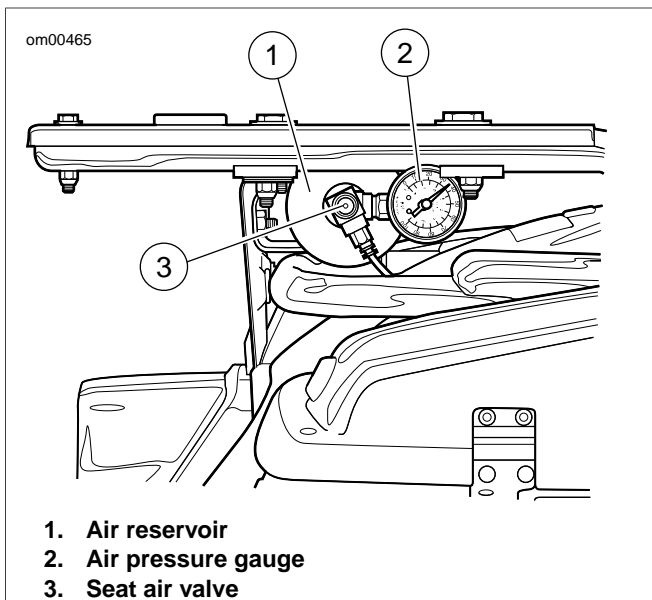
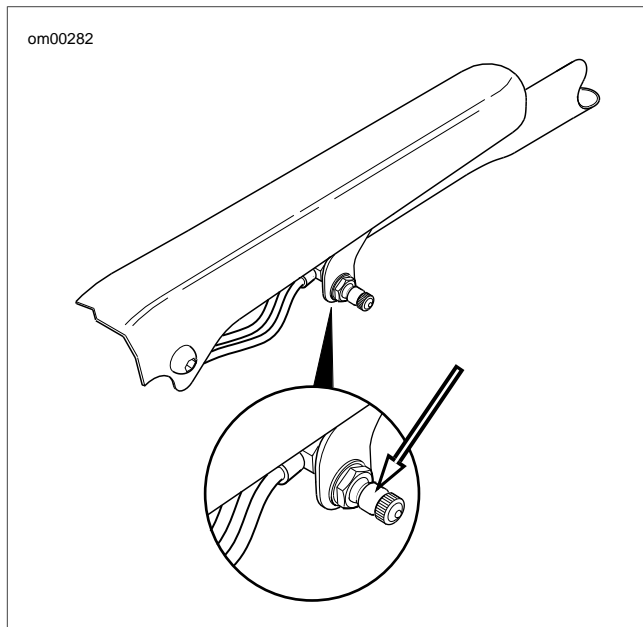

Figure 2-5. Seat Air Valve: Police Models
Figure 2-6. Rear Air Suspension Air Valve
2. On the right side of the motorcycle, locate the air seat reservoir air valve under the luggage rack, and on the left side, the rear shock air valve just below the chrome frame cover. See Figure 2-5 and Figure 2-6.
- Fill air reservoir to 40 psi (275.8 kPa), then add or remove pressure to the rider's comfort. Install protective cap on air valve. See Figure 2-5.